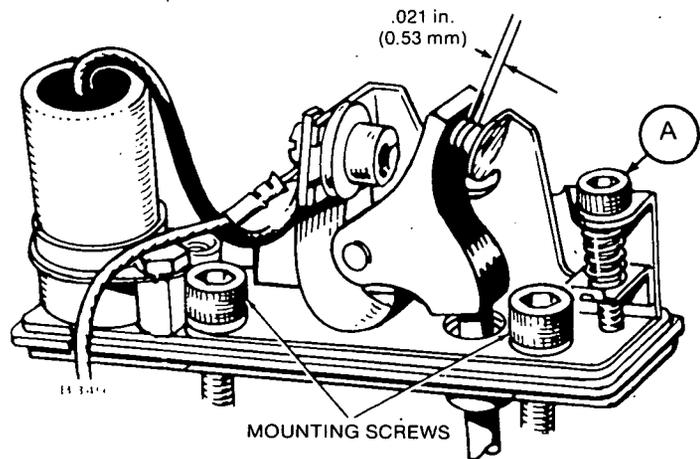

FIGURE 13. BREAKER POINTS
3. Using an allen head wrench, adjust set screw (A) for .021 (0.53 mm). Measure point gap with a flat thickness gauge. See Figure 13.